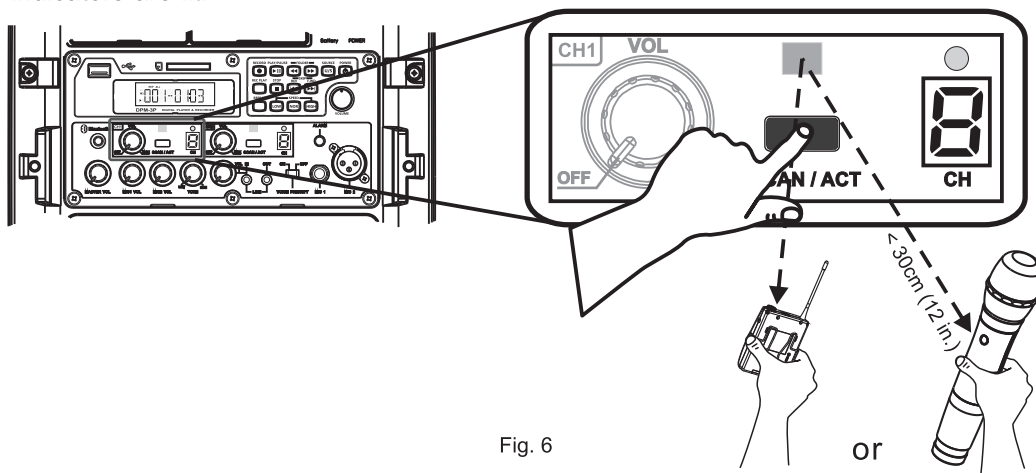

Fig. 6
- (1) Ascertain both the receiver and the transmitter are powered on. Press ACT Button 35 or 40 on the receiver to activate IR (infrared) channel synchronization. Existing channel blinks 38 or 43 .
- (2) Align the ACT sync windows of both transmitter and receiver within 30 cm of each other for automatic channel synchronization. Fig. 6.
- (3) If ACT channel synchronization is performed successfully, the new channel stops blinking, RF indicators are lit.